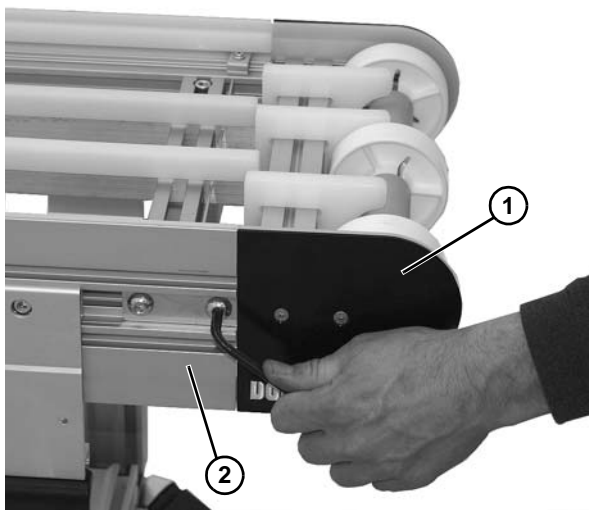

Figure 89
When reinstalling the idler spindle assembly, the idler tail assembly (Figure 89, item 1) should mate flush with the conveyor frame (Figure 89, item 2).